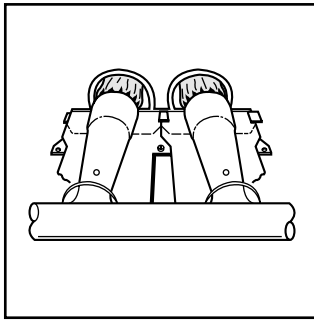

Fig. 37 - Burner Flame
6. Start the furnace and observe its operation. Watch the burner flames to see if they are clear blue, almost transparent. (See Fig. 37.) If you observe a suspected malfunction, or the burner flames are not clear blue, call your dealer.